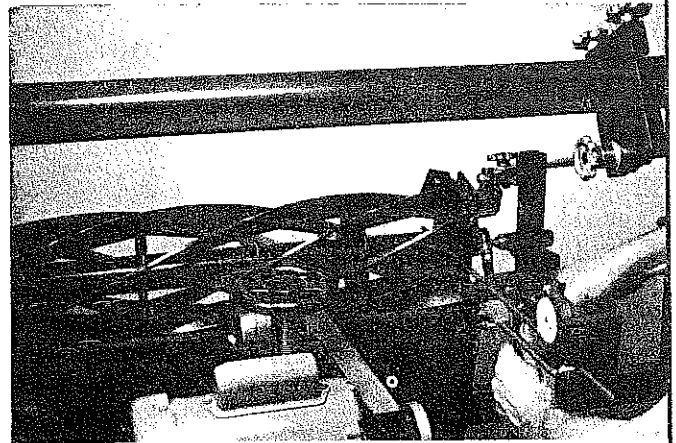

FIG. 67
- C. With your left hand on the vertical column supporting the indicator slide loosen the locking knob and slowly lower the indicator slide until the alignment rod lightly touches the top of the reel center shaft. Then lock the fixture to this setting. (See FIG. 67)